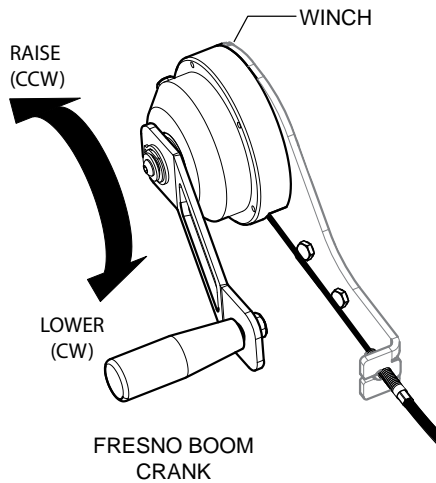

Figure 35. Winch Hand Crank Rotation
1. Pull the spring-loaded pin on both sides of the brush arm to release the brush (Figure 35).